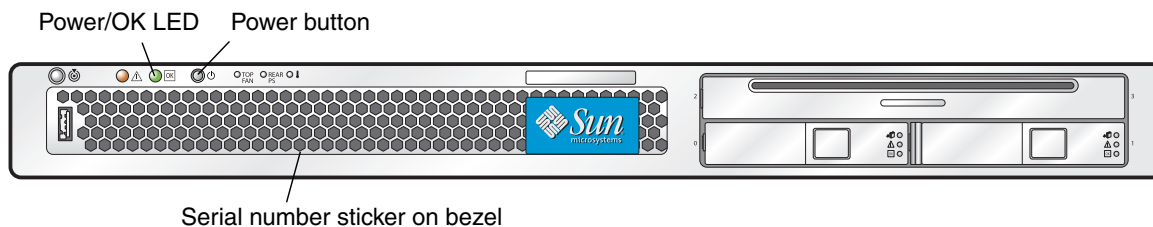
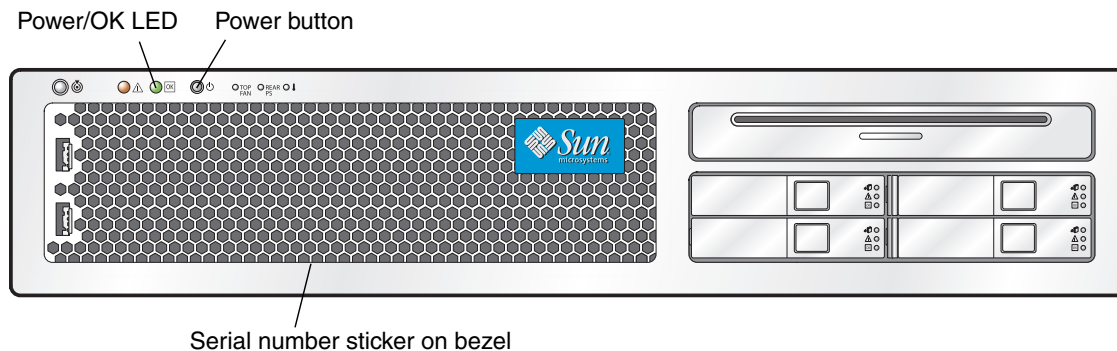

FIGURE 1-2 Sun Fire X4100 Server Front Panel
FIGURE 1-3 Sun Fire X4200 Server Front Panel
The system serial number is located on a sticker that is attached to the front bezel (see FIGURE 1-2 or FIGURE 1-3 for the location).
9. **To restore main power mode to the server (all components powered on), use a ballpoint pen or other stylus to press and release the Power button on the server front panel. See FIGURE 1-2 or FIGURE 1-3.**